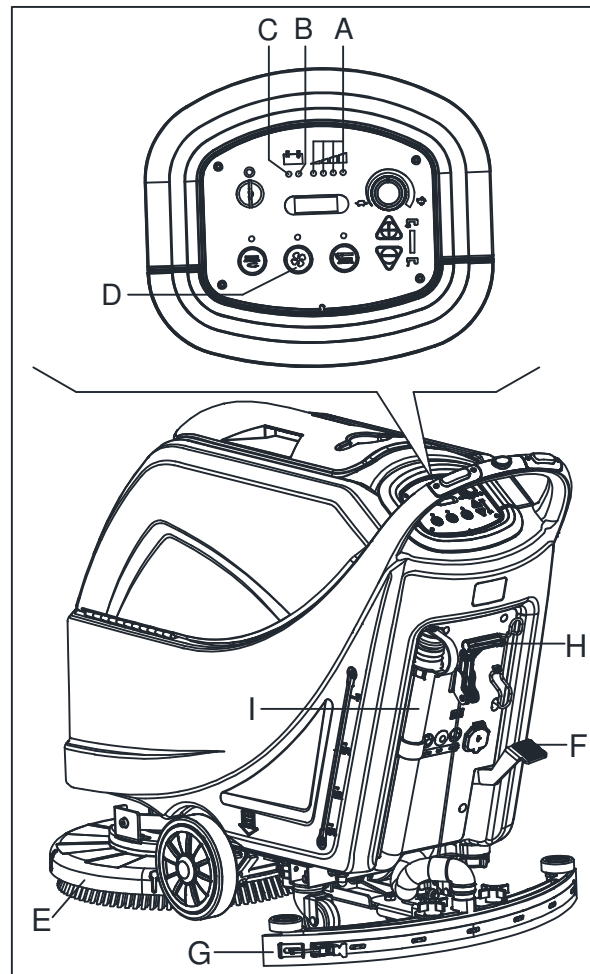

Figure 10
Until the green warning light (A, Figure 10) stays on, the batteries allow the machine to work normally. When the green warning light (A) turns off, and the yellow warning light (B) turns on, it is advisable to charge the batteries, because the remaining charge will last for a few minutes (depending on battery characteristics and work to be performed). When the red warning light (C) turns on, batteries are fully discharged. After a few seconds, the brush/pad-holder is automatically tuned off, while the (only for machine with traction) drive system stay on, to finish drying the floor and drive the machine to the appointed recharging area.
If the vacuum system turns off accidentally (for example, when the float is activated because of a sudden machine movement), to resume the operation: turn off the vacuum system by pressing the switch (D, Figure 10), then open the cover (C, Figure 11) and check that the float inside the grid (A) has gone down to the water level. Then close the cover (C) and turn on the vacuum system by pressing the switch (D, Figure 10).
2. Lift the brush/pad-holder deck (E, Figure 10) by pressing the pedal (F).
3. Lift the squeegee (G) with the lever (H).